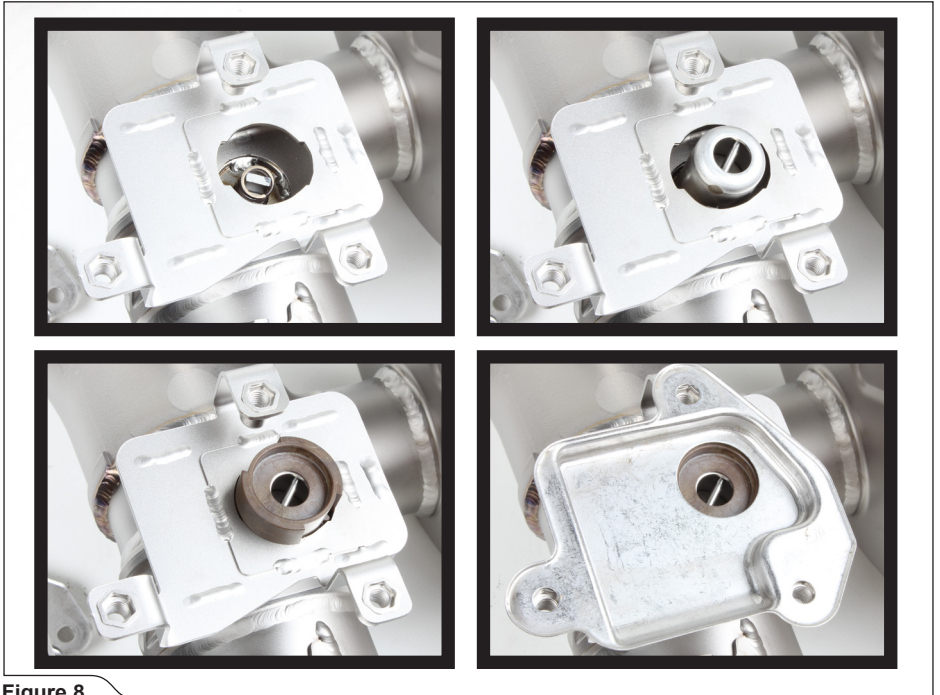

Figure 8
1. Assemble the stock exhaust valve actuators (using bolts and nuts from Akrapovič installation kit) and the stock muffler rubber brackets (using stock nuts) onto the Akrapovič muffler, as shown (Figure 8, 9, 10).